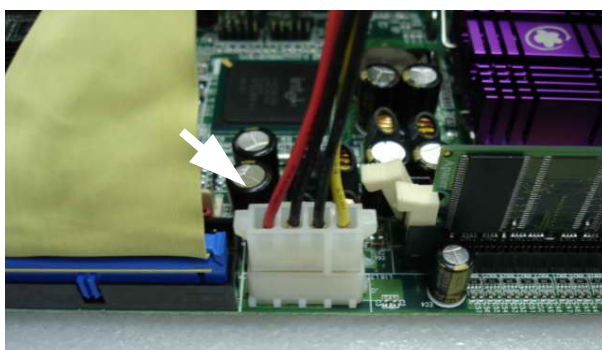

Figure 5-9
Step 1: Please connect 4 pins IDE power connector to J2 in order to make system stand-alone (See Figure 5-9)